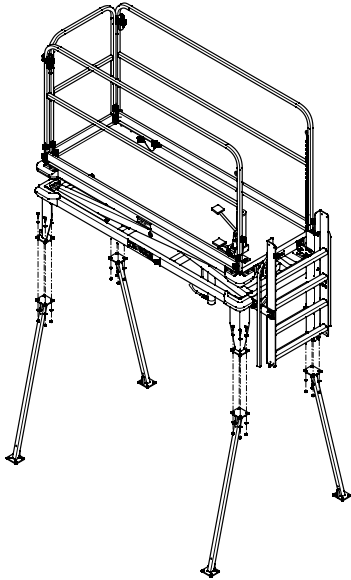

FIGURE 1
2. Install platform extensions to the bottom of platform assembly using $\frac{3}{8}$ -16 x 1½ inch long bolts (See *Figure 1*). **NOTE: DO NOT TIGHTEN BOLTS.**